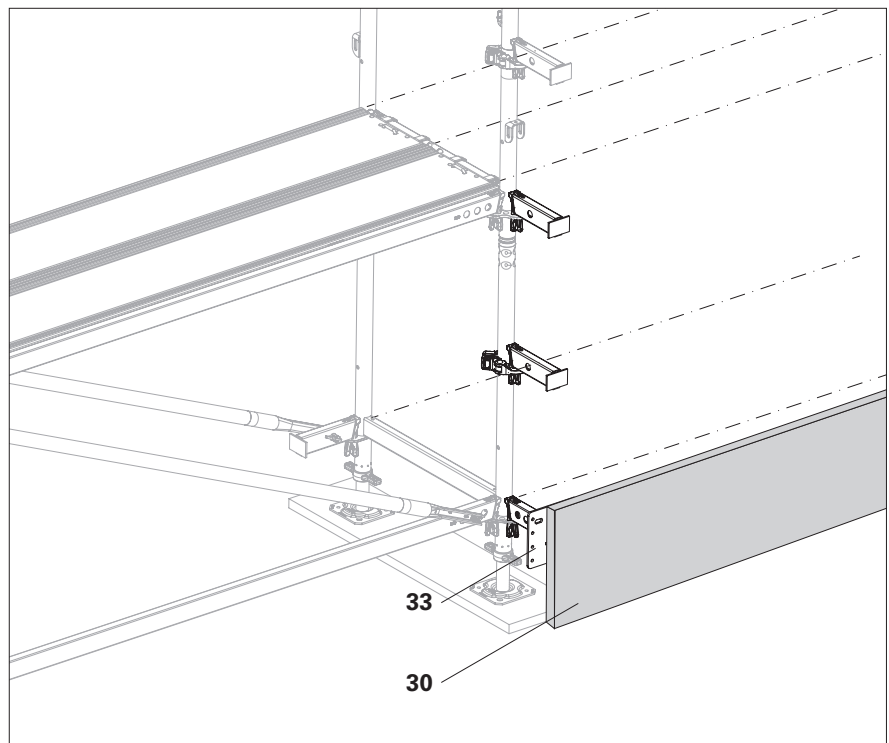

Fig. C4.04a
4. Tighten cut-to-size wooden panel (**30**) on multi-console brackets (**33**) with wood screw 5x20 TK-TX20 HSX. (Fig. C4.04a)